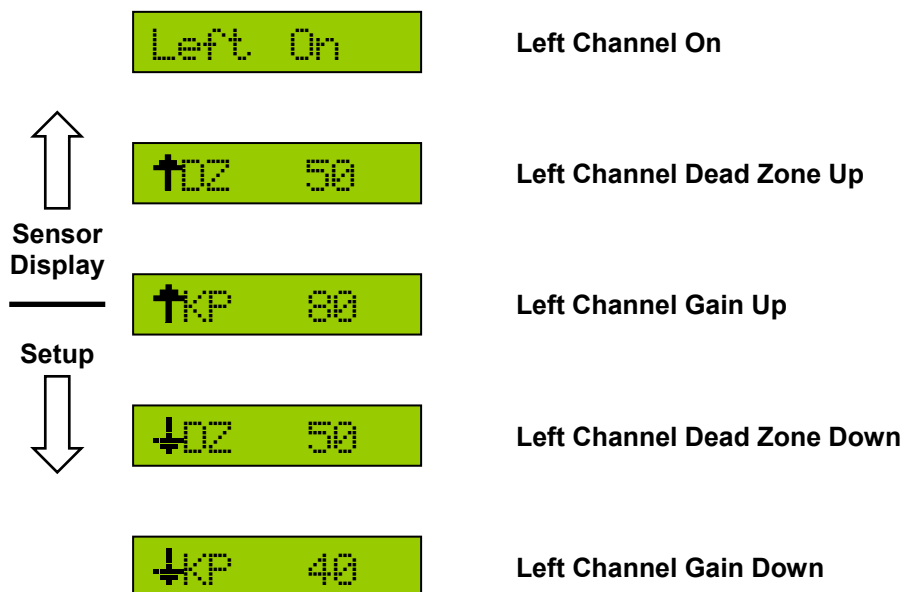

Figure 9: Hydraulic Setup Menu (for Left Channel)
- Toggle the "SETUP (NO)" switch to access the next menu prompt. Choose the dead zone up or down setting (**Figure 9**).
- Toggle the "SETUP (NO)" switch to access the next menu prompt. Choose the gain up or down setting (**Figure 9**).